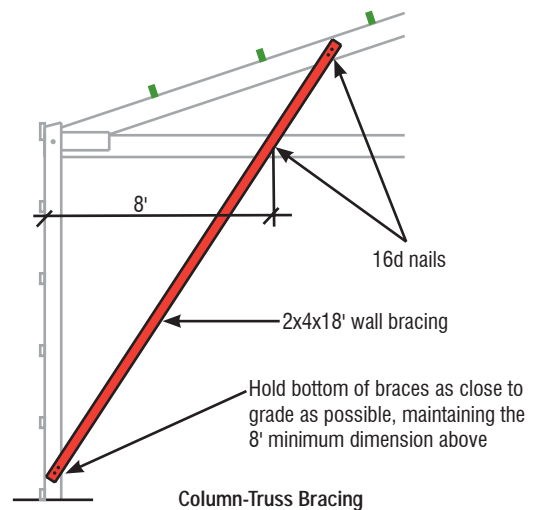

FIGURE B10-12
- a) Diagonal Braces (Figure B10-12) and/or